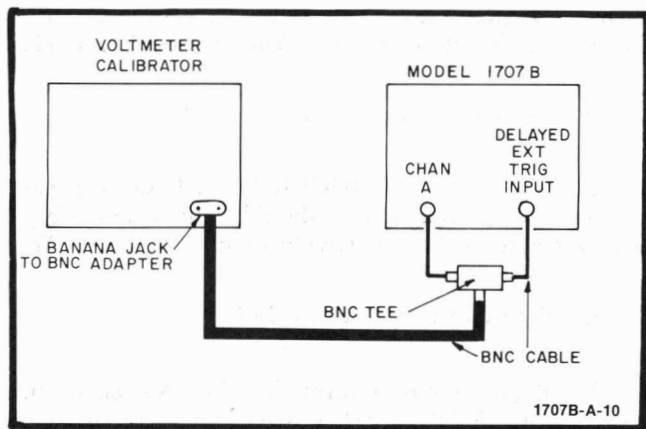

Figure 5-15. Delayed Trigger Level Range and Polarity Test Setup
- a. Connect instruments as shown in figure 5-15.